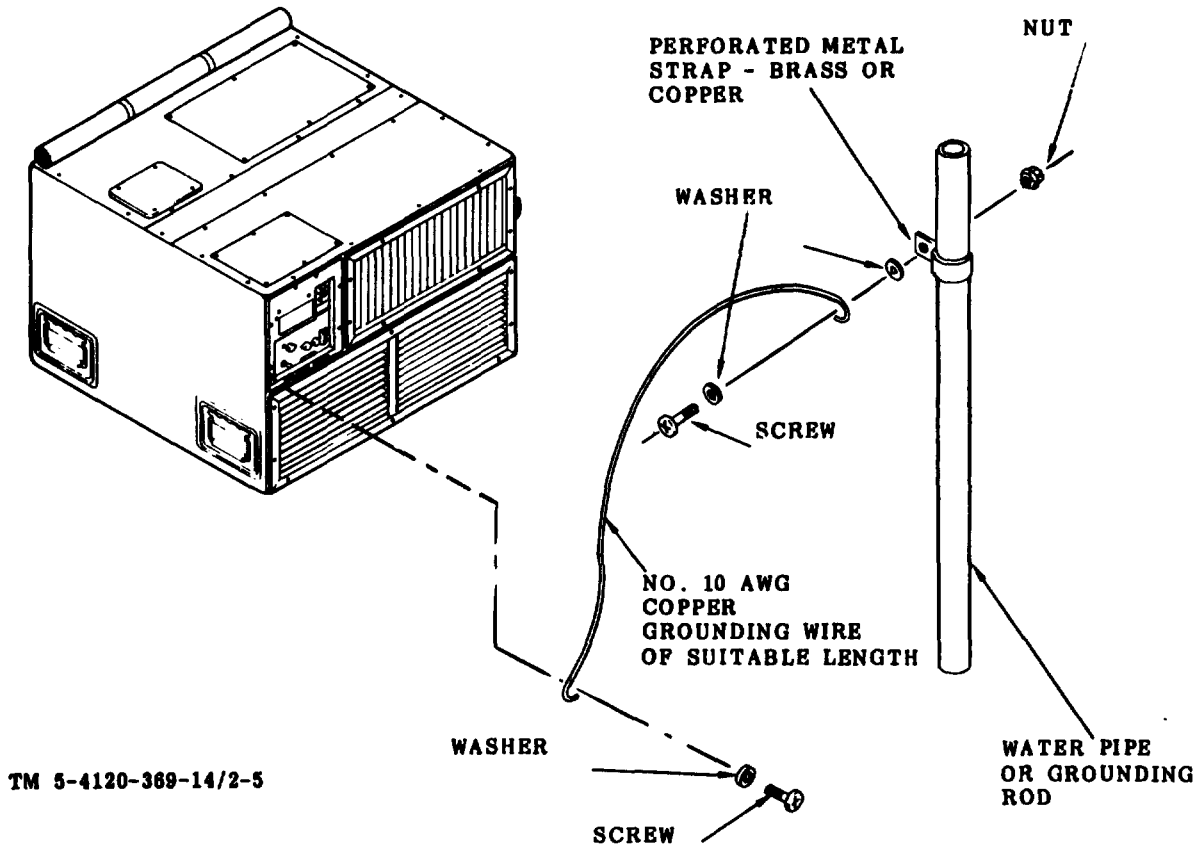

Figure 2-5. Ground wire installation
For safe operation connect a No. 10 AWG (min.) ground wire between the air conditioner ground connection and an earth ground, as shown in figure 2-5.
(1) Conned to earth ground (see Figure 2-5) as follows: